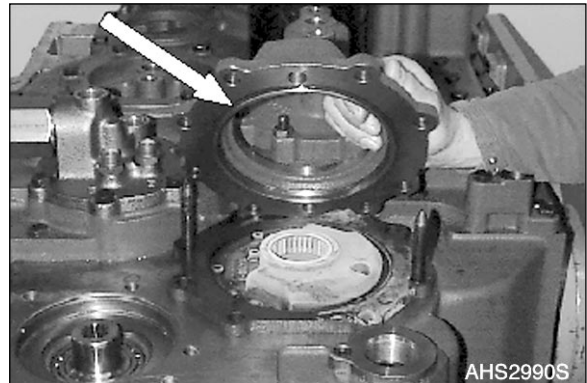

Figure 351
- Install O-ring (Figure 351) and mount pump flange.